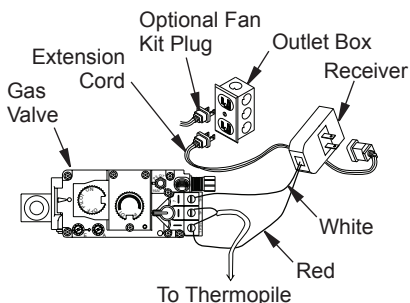

Figure 36 - Installing Remote Receiver (SKYTECH Model)
3. The receiver does not require a battery. To install, plug extension cord into one of the outlet receptacles on the outlet box. Plug receiver unit into extension cord and the ignition module into receiver unit (see Figure 36).